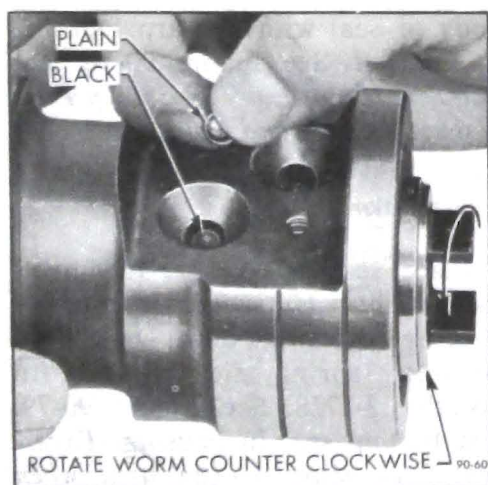

Figure 90-72 Loading Balls in Rack-Piston Nut
4. Align the ball return guide holes in the rack-piston nut with the worm groove. Load all balls, except 6 (3 plain and 3 black) in alternate sequence into the guide hole nearest the piston ring while slowly rotating worm counterclockwise. See Figure 90-72.